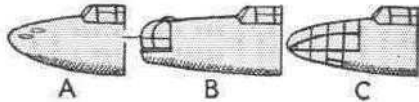

Fig. 5. THREE TYPES OF NOSES :
- (2) Longer types of nose with power-driven turrets and bomb-aimer's position (B, Fig. 5).
- (3) Filled-in nose, perhaps with fixed armament (A, Fig. 5).
- (4) Glazed nose (C, Fig. 5).